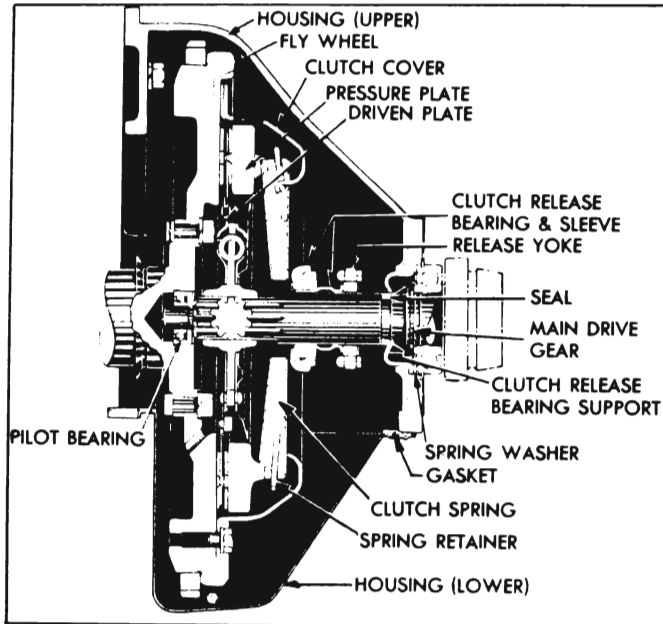

Figure 4-1—Clutch and Flywheel Assembly—Series 40-50
cover fit over the waves a short distance from the outer edge of clutch spring to transmit drive to the clutch spring. Twelve lugs cast on the pressure plate engage waves at the outer edge of clutch spring to take the pressure as well as drive from the spring. The pressure plate and clutch spring are attached to the clutch cover by six spring retainers which hook over ears on inner edge of cover, pass around outer edge of clutch spring and through holes in lugs on pressure plate. See figure 4-1.
When the clutch is in the engaged position, the clutch cover compresses the clutch spring, causing it to exert heavy pressure against the pressure plate. The pressure plate clamps the driven plate against the flywheel with sufficient force to transmit the power of the engine without slippage. The power drive is from flywheel to clutch cover, cover to clutch spring, spring to pressure plate, and from pressure plate and flywheel to driven plate. See figure 4-1.
is piloted by a ball bearing pressed into a recess in rear end of engine crankshaft. See figure 4-1.
The clutch release bearing and sleeve assembly is mounted upon a bearing support which encircles the transmission main drive gear. The bearing support is flared at the rear end to seat in flywheel housing and is held in place by a spring washer and the outer race of transmission main drive gear bearing. See figure 4-1.
1. Remove flywheel lower housing. See figure 4-1.